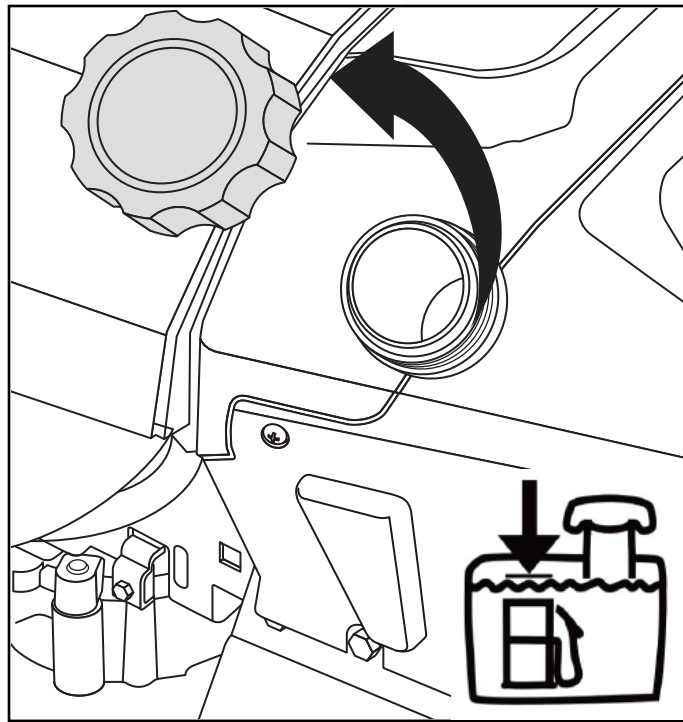

Fig. 14
2. Remove the fuel cap. (Fig.14)